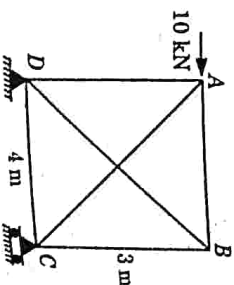

Fig. 21.
a. Determine the forces in all the members using method of substitution, for the given Fig. 21. (7 × 1 = 7)